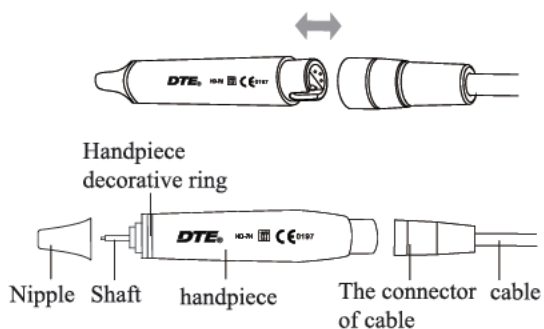

Figure 5
- ① **Don't pull out the handpiece when the foot switch is stepped on and the machine is producing ultrasonic vibration.**
- ② **Please don't choose dry mode unless needed in the treatment, please don't make the machine work under dry mode for a long time. The teeth will be hurt if the handpiece and tips getting overheat during the treatment.**
2.1.2 Instruction for main components of detachable handpiece (See Figure 5):